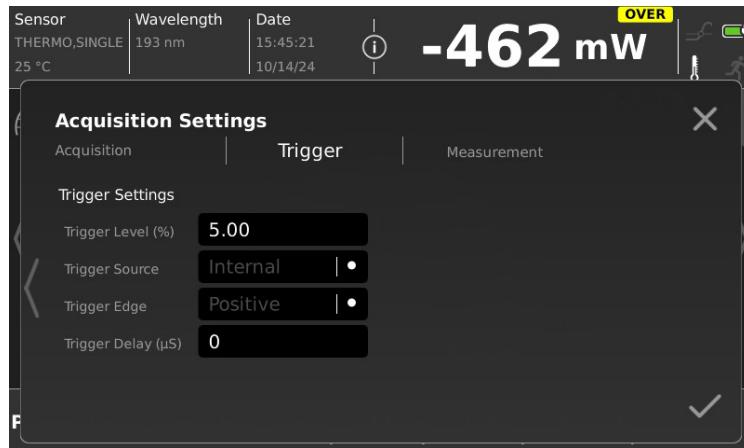

Figure 6-10. Acquisition Settings - Trigger
3. Press the **Trigger** tab to display Trigger settings. Refer to Figure 6-10.